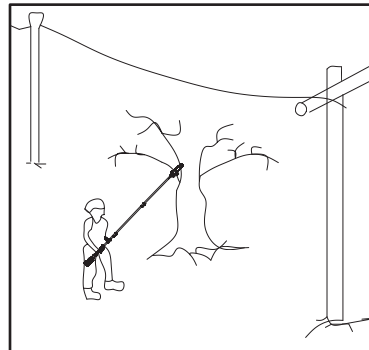

Fig. 50
**WARNING!** This product has not been designed to provide protection from electric shock in the event of contact with overhead electric lines! Therefore do not use product near cable, electric power or telephone lines. Keep a minimum distance of 10 m to all electric lines (Fig. 50).